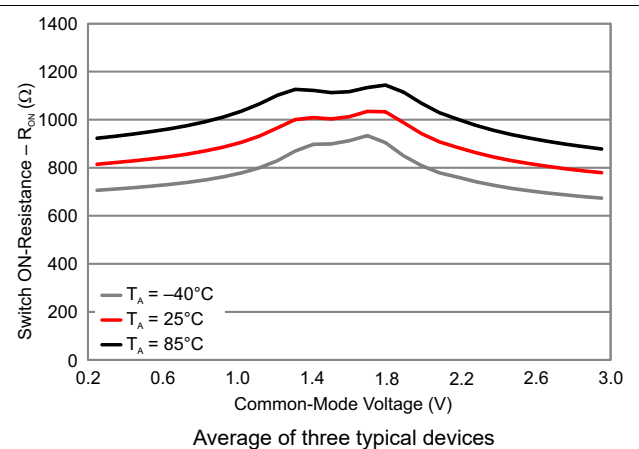

图 8-29. OA Switch RON vs Common-Mode Voltage
- (1) This leakage includes all leakage seen at the device pin, not only leakage caused by the switch itself. It assumes a total of five switches present and a shared digital I/O.
- (2) The resistance varies with input voltage range. This resistance represents the peak resistance at the worst case input range (see 图 8-29).